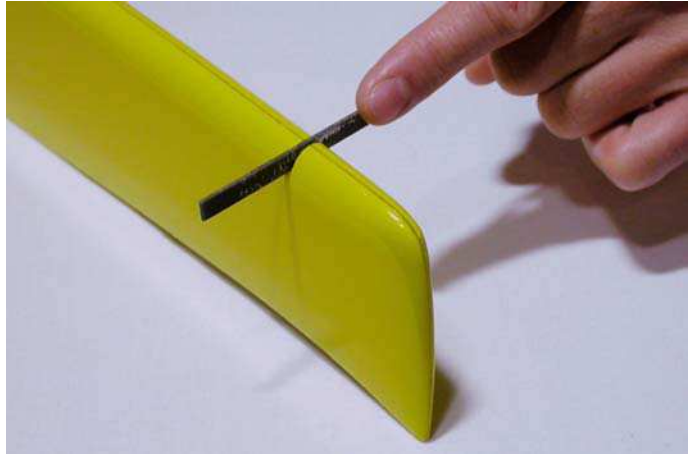

Fig.44: .Make a notch 3 mm wide.
- before with a cutter, then using a flat file make a notch, in the marked point, **3 mm** wide, across the rudder as shown in figure 44;